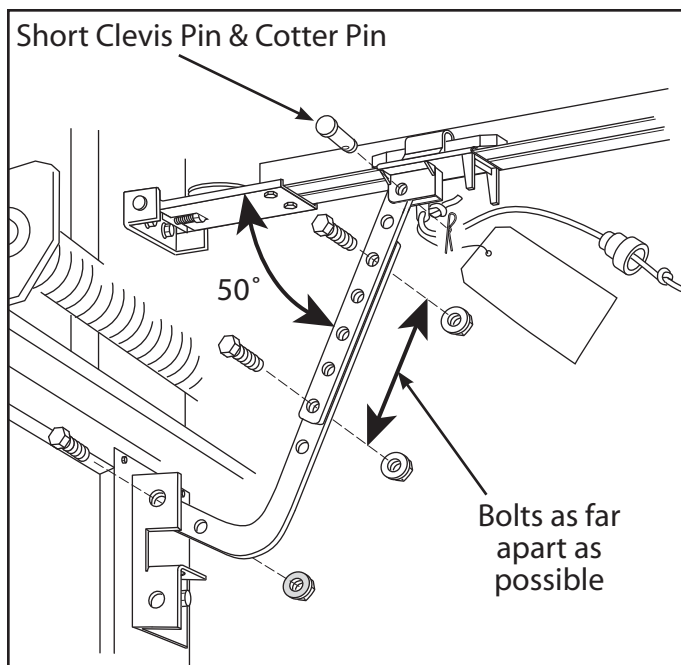

FIG. 2-9 Attaching door arms
- Fasten short branch of curved door arm to door bracket using bolt and locking nut (Fig. 2-9).
- Fasten straight arm to carriage using clevis pin and cotter pin (Fig. 2-9).
- With the arms arranged in this position, fasten arms together using bolts and nuts spaced as far apart as possible (Fig. 2-9)